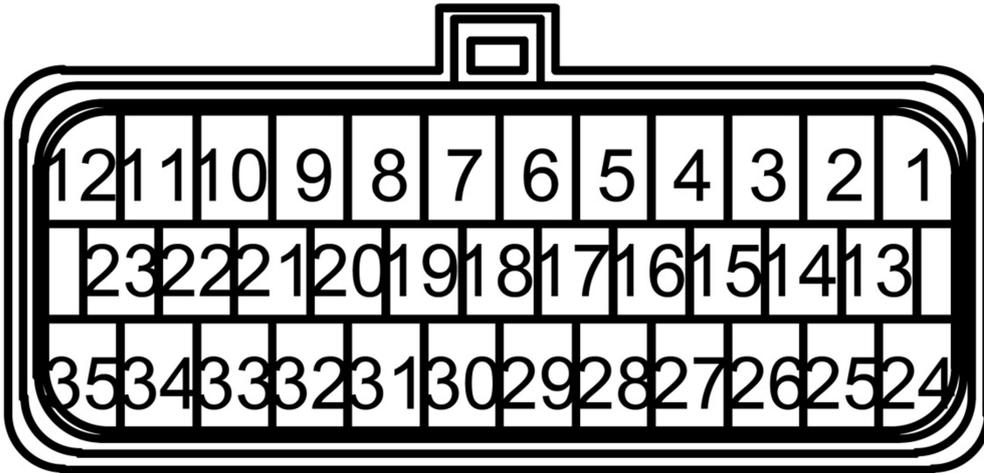

Figure 11: 776164 35pin connector
1. Connect the controller and the motor according to the **standard wiring diagram (Figure 11)**. Please make sure there is no load on the motor shaft before starting the programming.